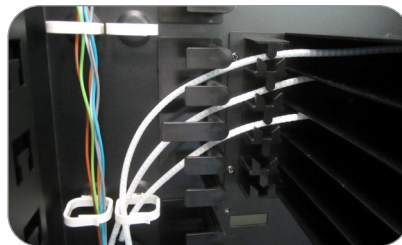

Figure 16.
- Load all excess fibre tubes into the white management clips as shown in **Figure 16**.